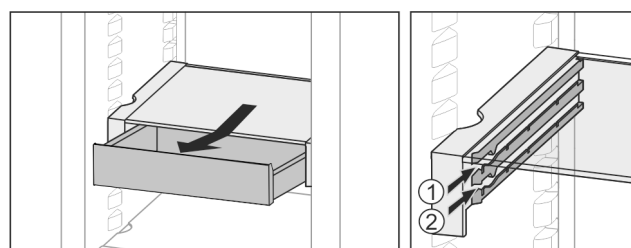

Fig. 60
- ▶ Slide in at height Fig. 60 (1) or Fig. 60 (2).